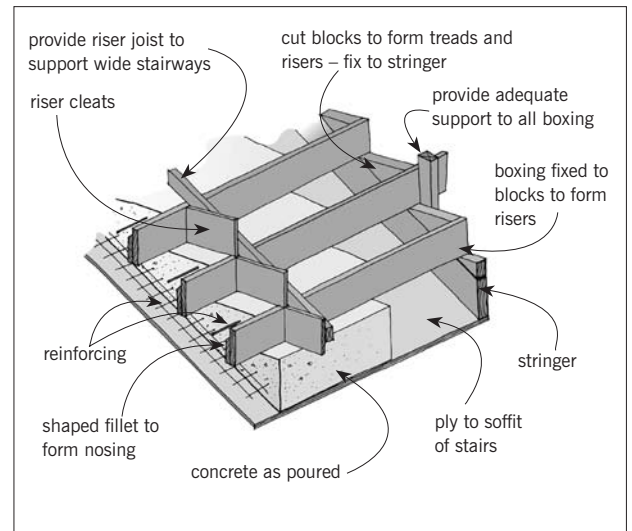

Figure 8 – Boxing up for in-situ concrete steps.
8.0.1 A typical method of boxing for in-situ concrete steps is shown in Figure 8. It is important that all boxing is sufficiently rigid and supported to prevent sag or movement due to the weight of the wet concrete.